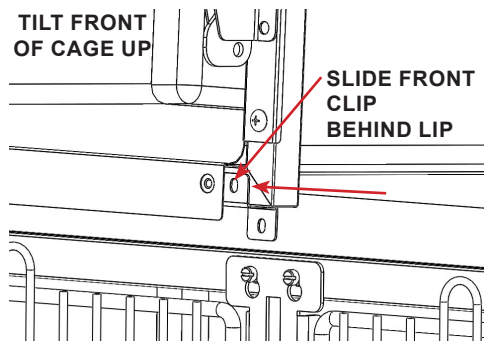

FIGURE 2.35 - Front Clip Installation
STEP 7: Remove the bottom-right trim plate screws. See FIGURE 2.35
NOTE: A trim plate to be added in a later step will secure the clip in place, which prevents the cage from sliding forward. See FIGURE 2.35 and 2.36